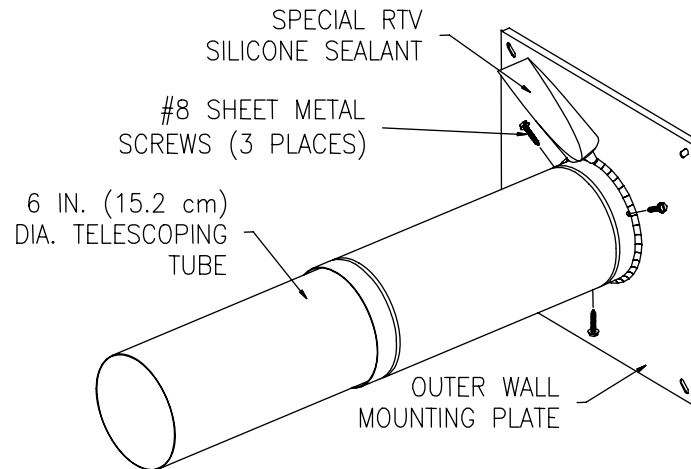

Figure 12.
8. Extend the six (6) inch (15.2 cm) diameter telescopic tube to its maximum length. Place the large end of the six (6) inch (15.2 cm) diameter telescopic tube over the collar on the outer wall mounting plate. Drill three (3) 1/8 inch (3.2 mm) diameter holes, 120° apart, through the six (6) inch (15.2 cm) diameter telescopic tube into the collar on the outer wall mounting plate. Fasten with three (3) #8 sheet metal screws (supplied). Using the supplied special RTV silicone sealant, apply a sufficient amount to seal the joint (See Figure 12).